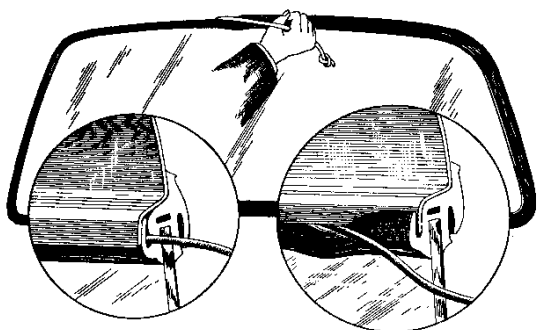

Fig. 32. Fitting the sealing strip.
3. Press a leather strap or strong cord in the groove in the strip as shown in Fig. 32. Place the glass in position and press it against the edge of the metal, and then pull the cord from inside the car so that the